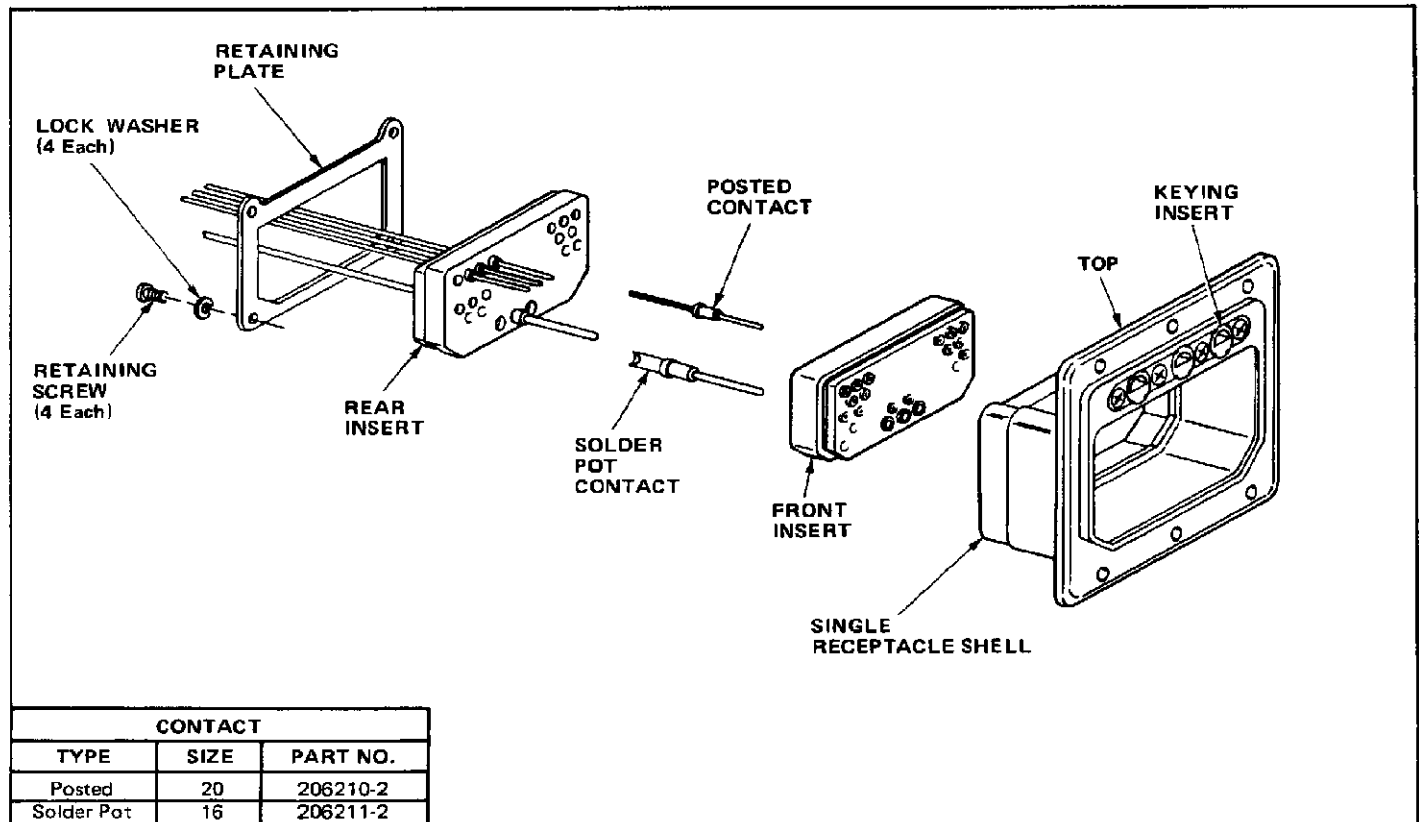

FIGURE 1
3. CONTACT REPLACEMENT (See Figure 1)